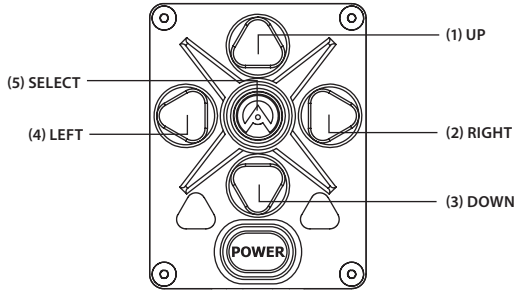
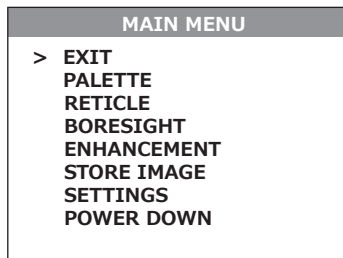

FIGURE 3-11. MAIN MENU NAVIGATION BUTTONS
FIGURE 3-12. MAIN MENU
Once the MAIN MENU is displayed (Figure 3-12), use the UP(1) and DOWN (2) buttons (Figure 3-11) to navigate through the items on the menu.